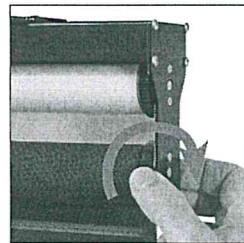

Fig. 6
- To make an adjustment, turn the dial clockwise (right end view) to the lower stopping point. (Fig. 6)